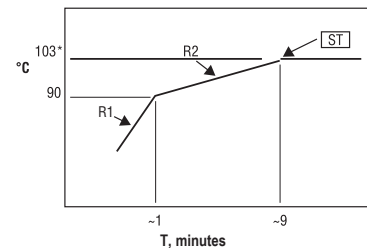

Figure 1, UniBlate Default Algorithm
- RF set temperature defaults to 103°C. Modifying the set temperature will offset the endpoint of the first ramp shown in Figure 1 by the number of degrees different from the default setting, e.g. a 100°C set point will drop the end point of the first ramp from 90°C to 87°C.